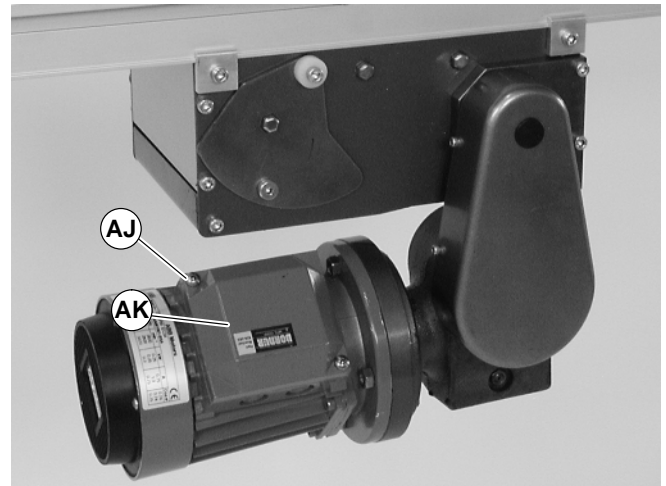

Figure 19
- a. Loosen terminal box screws (AJ of Figure 19) and remove cover (AK).